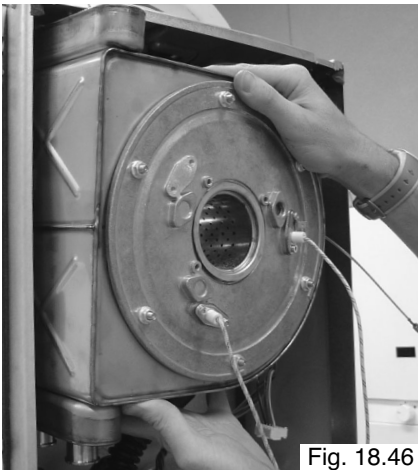

Fig. 18.46
5. Remove the heat exchanger from the boiler by sliding out. (Fig. 18.46);